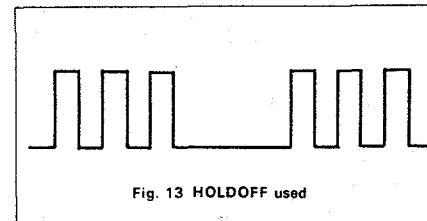
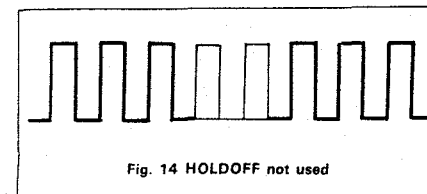

Fig. 13 HOLDOFF used
Fig. 14 HOLDOFF not used
When a series of complex pulses appear periodically as shown in Fig. 13, it sometimes happens that the waveform is displayed twice without being synchronized as illustrated in Fig. 14 depending on the setting of sweep time. In this case, the waveform can be synchronized by continuously varying the sweep time with SWEEP VARIABLE (26), but this method is unpractical because the time base is not calibrated. To obtain stabilized synchronization, turn HOLD-OFF (33) slowly clockwise from the NOR position to change the sweep cycle (time base remains the same) so that the sweeping is started at the same point of the waveform at all times. If a jitter appears when trigger level is adjusted to the maximum setting, adjust the HOLDOFF control until sync signal is stabilized.